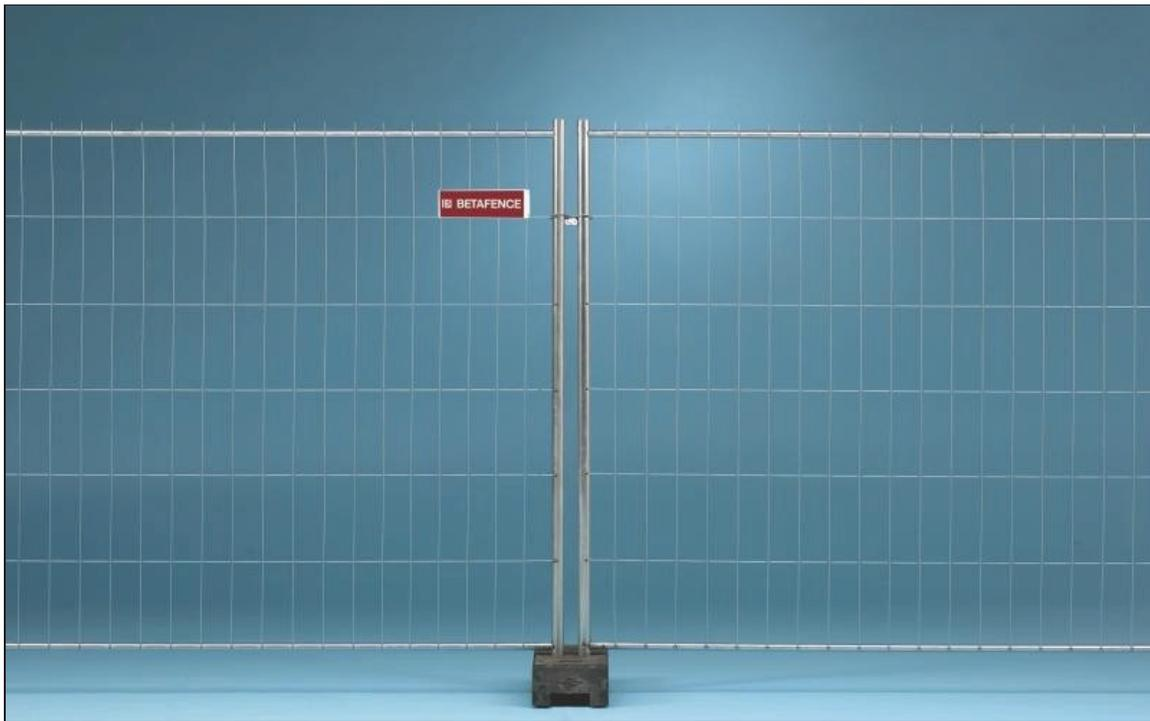

Figure 1: Tempofor panel with barb on top
- Mesh sizes: See figure 1
Each panel can have a "Betafence" or specific customer tag (See Figure 1).